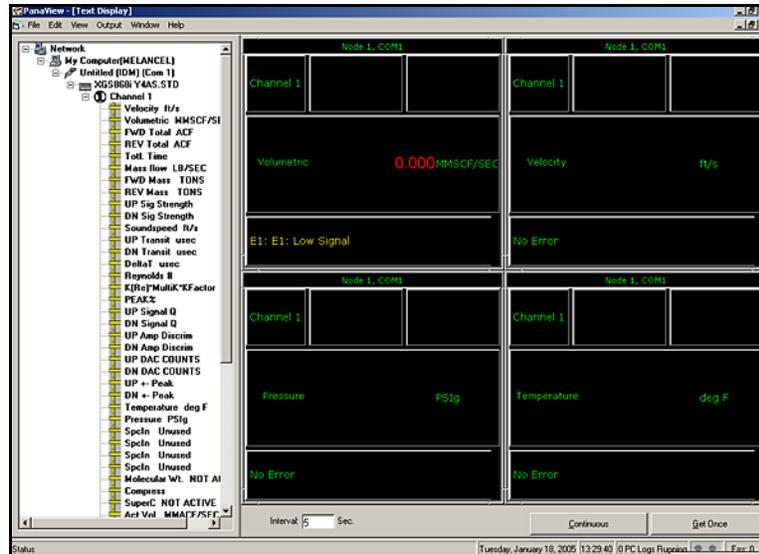

Figure 20: Multiple Text Screens in the *Text Display* Window
2. Repeat Step 1 for any desired additional process parameters, by double clicking on them in the PanaView network tree. PanaView automatically tiles the multiple text screens in the right pane of the *Text Display* window, as shown in *Figure 20* below.